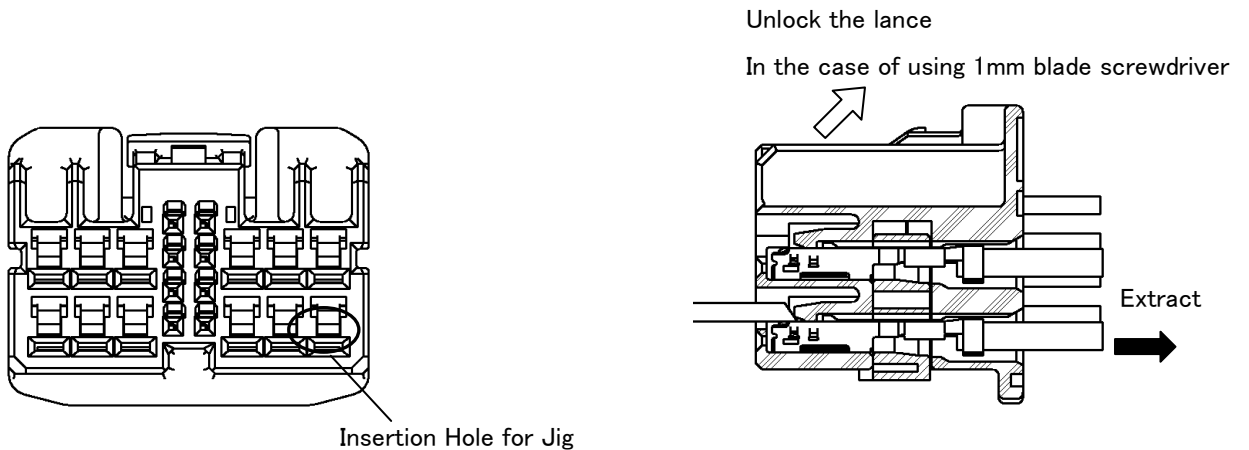

Fig.14
(3) In the case of 2.3 TW Contact
- ① Insert the extraction tool for 2.3TW Receptacle contact (P/N:1999077-1) into the proper hole . At this point, pull back the crimped wire lead and the contact can be removed. See Fig.14.
- ② In the case of using 1mm blade screwdriver, insert it into the proper hole and raise it gently just enough to unlock the lance. At this point, pull back the crimped wire lead and the contact can be removed. See Fig.14.